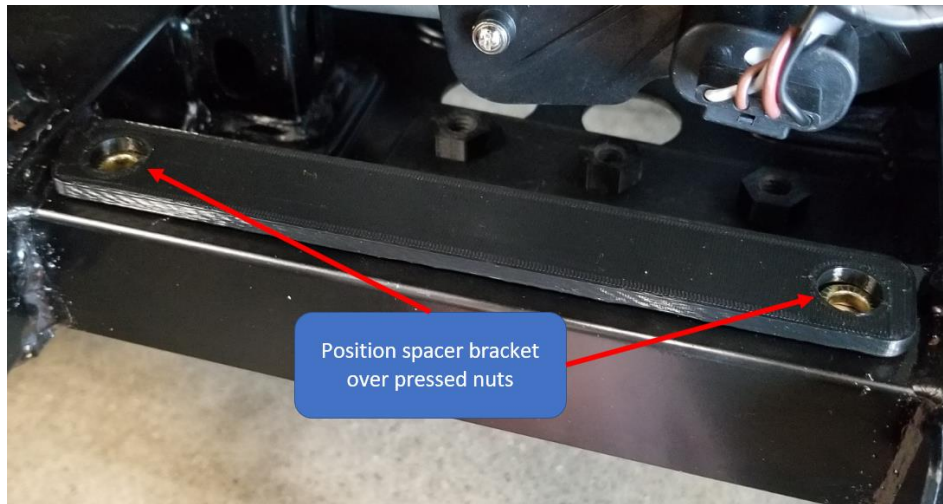

Figure 5
5. Position the spacer bracket over the pressed nuts of the cross frame as shown in **Figure 5**.